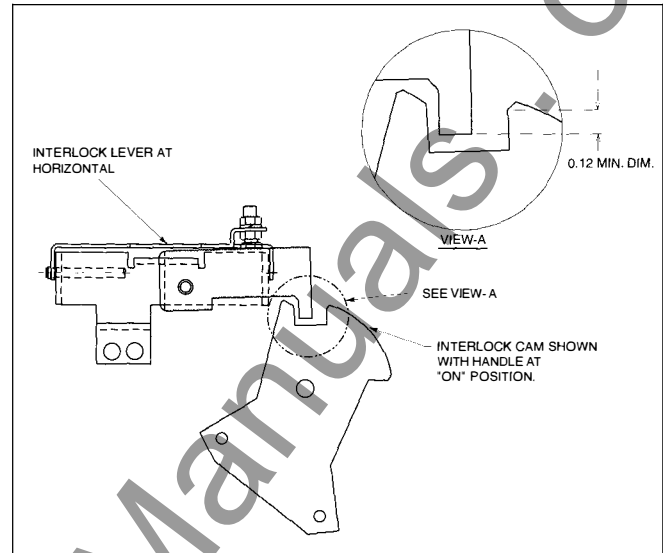

Figure 41. Interlock Lever Engagement Check
3. Check interlock lever engagement as shown in **Figure 41**. Replace assembly, Siemens part no. 25-154-488-877, if engagement is less than 0.12 in. (3mm).